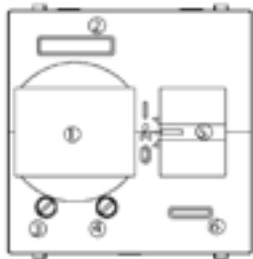

Figure 3. Basic wiring diagram
The electrical wiring of these devices is performed according to the wiring diagram shown in Figure 3.
1. Connect the device based on the wiring scheme. Figures 3, 4 and 5.